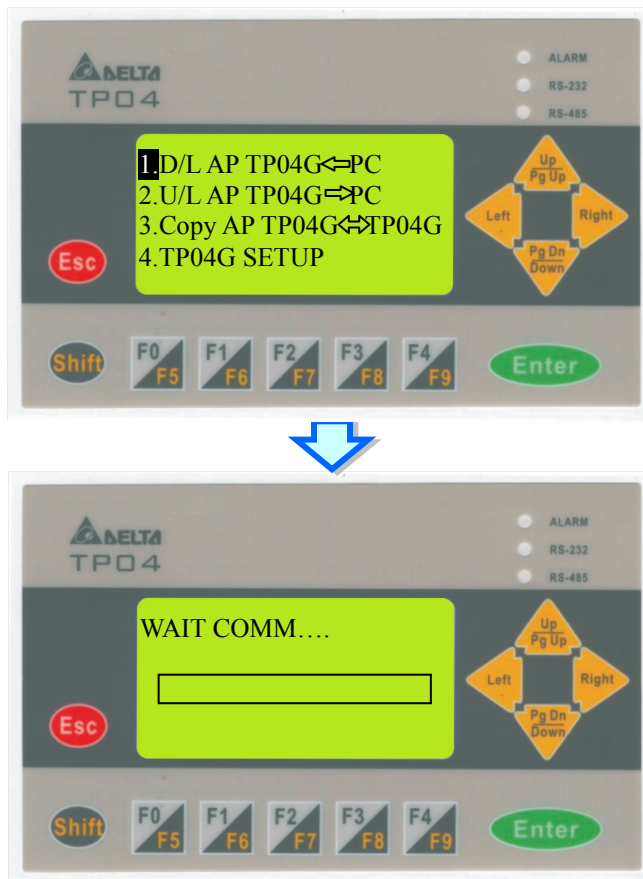

Figure 6-11 Touching 1. D/L AP TP04G ← PC
- Step 4: After the users finish editing a boot page, they can download the boot page. After the users press Esc on the TP04G series text panel used for a long time, menus will be displayed on the screen of the TP04G series text panel. After 1. **D/L AP TP04G**  **PC** on the screen of the TP04G series text panel is touched, "WAIT COMM..." will be displayed on the screen of the TP04G series text panel, as shown in Figure 6-11.